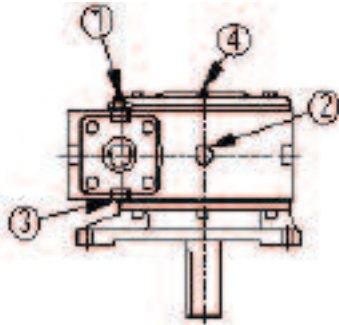

Figure W11: Output Vertical Down
- 3** Since the gearbox is positioned with the output vertically down, an adequate amount of lubrication must be supplied to the Bearing through grease fitting 4, figure W11, as indicated above.